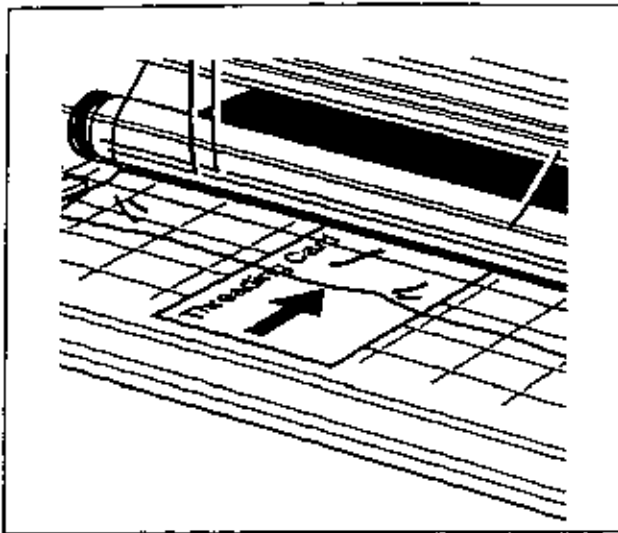

Fig. 9
14. Slide the threading card between the feed tray and the film web lying on the tray. Gently push into the nip area of the heat rollers. The card should now be guiding both rolls of film into the heat rollers, (Figure 9).